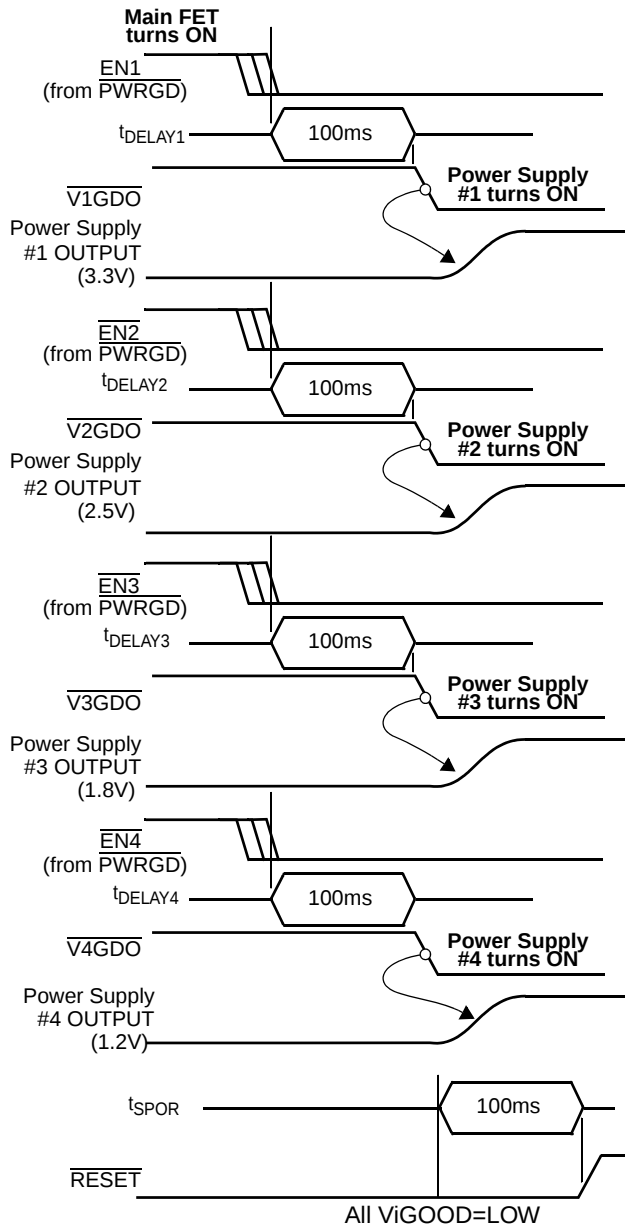

FIGURE 42. PARALLEL SEQUENCING OF DC/DC SUPPLIES. (TIMING)
1. Power Up of DC/DC Supplies In Parallel Sequencing Using Programmable Delays on Power Good (See Figure 41 and Figure 42).